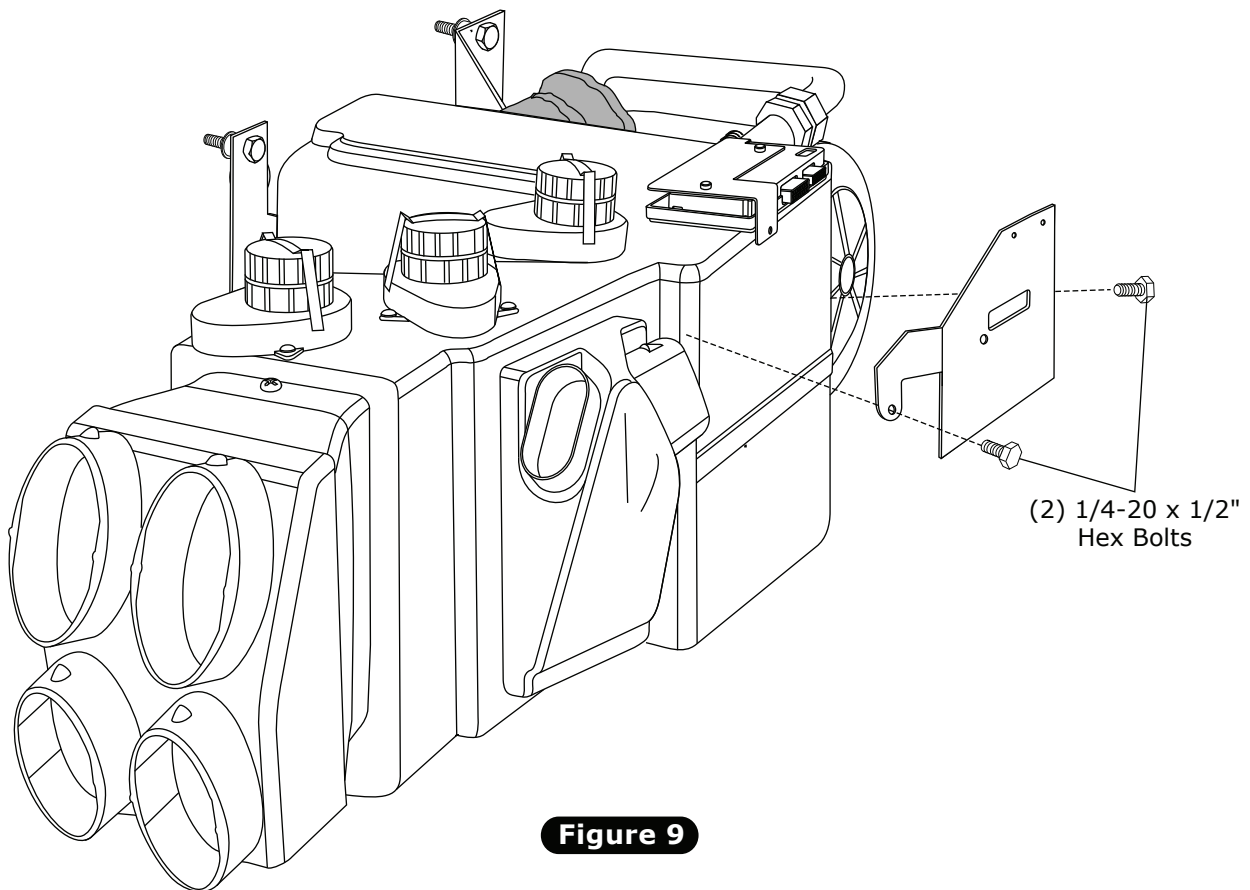

Figure 9
4. Install front mounting bracket on evaporator using (2) 1/4-20 x 1/2" hex bolts, and tighten as shown in Figure 9, below.